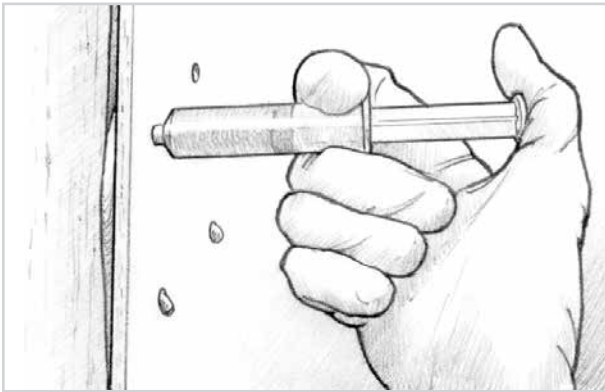

Figure 12-10 Inject the epoxy mixture until it reaches the surrounding holes.
3. Inject the mixture into the void through the pattern holes. Force the syringe tip into the lowest pattern hole and inject the mixture until it reaches and begins to ooze from the surrounding holes (Figure 12-10).